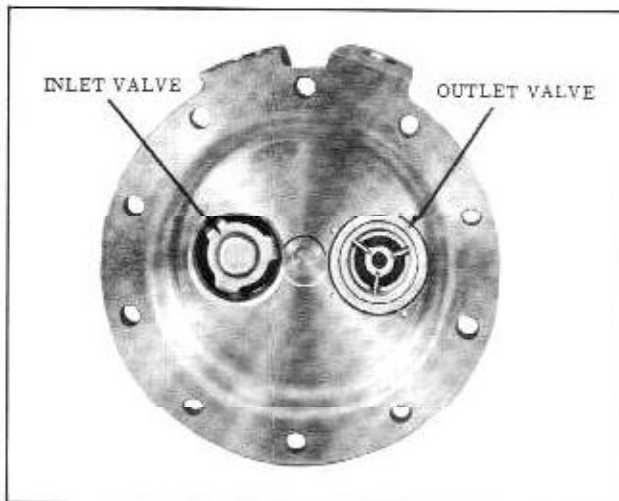

Fig. 8-67 Fuel Inlet and Outlet Valves
- If valves are to be replaced, remove the staking then remove the inlet and outlet valves and gaskets from the fuel cover. (Fig. 8-67)
4. Place valve gaskets in recesses provided in fuel cover. Place valve assemblies on top of gaskets. Inlet valve must have spring cage facing out of cover, and the outlet valve must have the spring cage facing into cover. Stake valves in place. (Fig. 8-67)